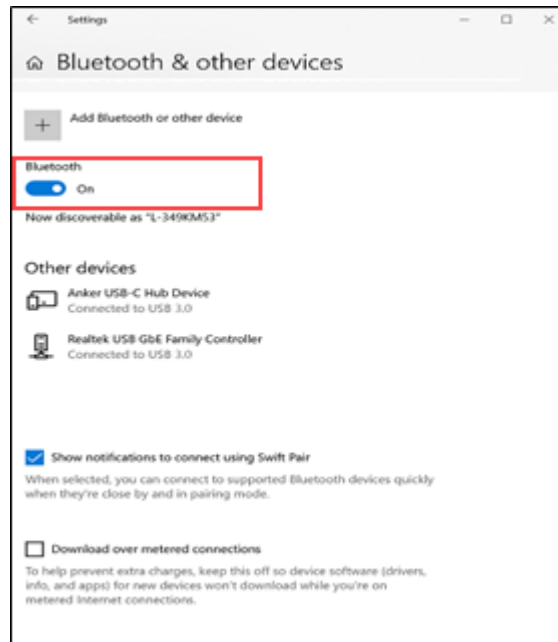

Figure 18: Win 10 Bluetooth - Settings
2. In Windows Bluetooth - Settings, slide the Bluetooth switch to **On** (see **Figure 18**).